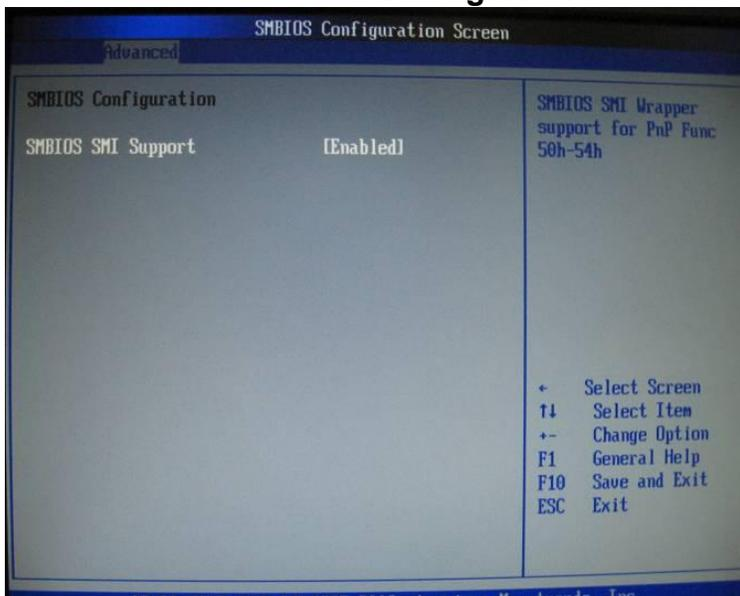

Figure 8-29 SMBIOS Configuration Page
19. On the **SMBIOS Configuration** Page, no changes are necessary. (Figure 8-29). Then press **Escape** to return to **Advanced Settings** Screen.